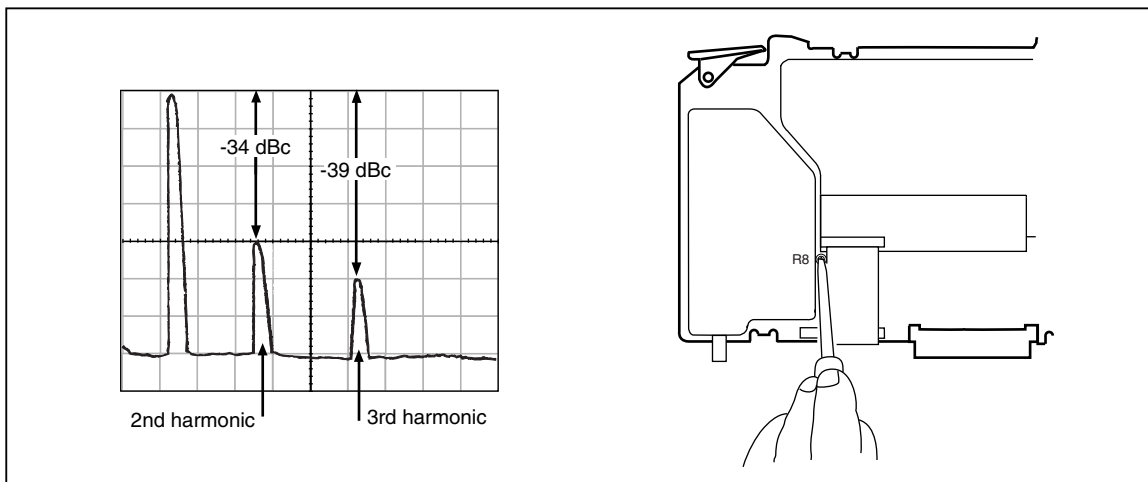

Figure 19. Levelled Sine Wave Harmonics Adjustment
5. Set the spectrum analyzer so it shows one peak across the horizontal centerline. The far right of the peak is fixed at the far right of the centerline, as shown in Figure 19.
7. Use the search function on the spectrum analyzer to find the reference signal. The spectrum analyzer display will show the fundamental with the second and third harmonics. This adjustment will set the second harmonic to -34 dBc. The third harmonic can be at -39 dBc or more as shown in Figure 19.